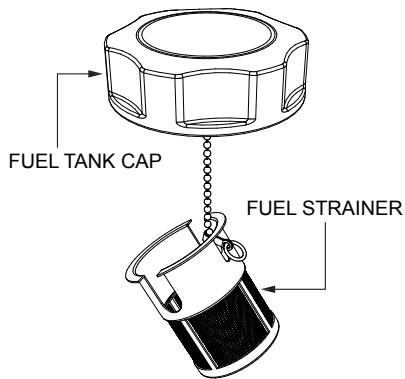

**Figure 54. V-Belt Inspection**
1. Inspect the V-belt (Figure 54) to determine if it is frayed, peeling, full of tiny cracks, has pieces of rubber missing, or is otherwise damaged.
2. Inspect the V-belt (Figure 54) to determine if it is oil-soaked or glazed (a hard, shiny appearance on the sides of the belt). Either of these conditions can cause overheating of the belt, which can weaken the belt and increase the possibility of it breaking.